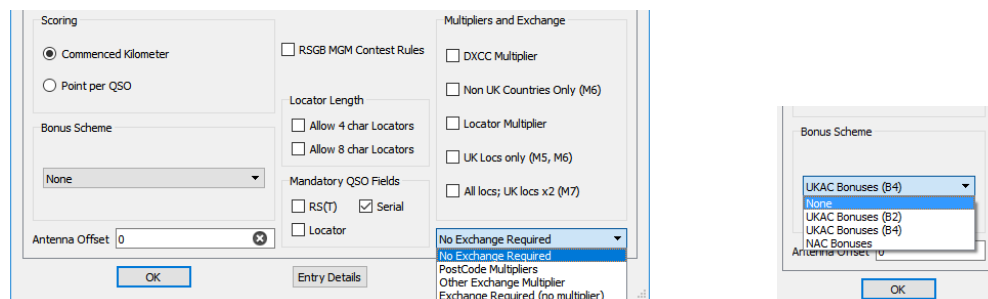

Figure 11 – Contest details and Bonus schemes
- **Contest:** Typically derived from the contest calendar, specifying contest name, band(s), and scoring. If the calendar is not used then individual boxes can be configured (see Figure 11) or modified from the calendar derived values.
If the contest is not selected from the Calendar then use the relevant fields on the “**Details of Contest Entry**” panel (see Figure 11) to set the name, date/time, scoring, multipliers etc. Any bonus scheme in use must also be selected from the pulldown list at the bottom left.